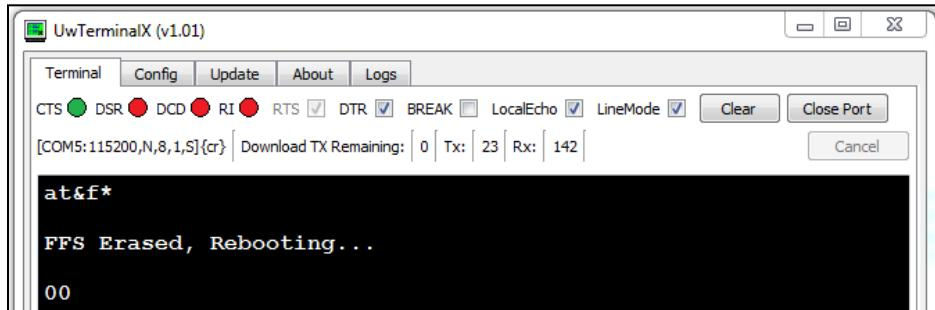

Figure 3: Return BL652 to factory default settings
10. To return the BL652 to factory defaults, enter the command `at&f*` in the Terminal tab as shown (Figure 3).